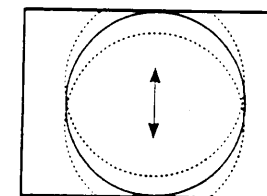

Fig 3.
- d: Adjust the Vertical location to obtain picture centring (fig. 3).